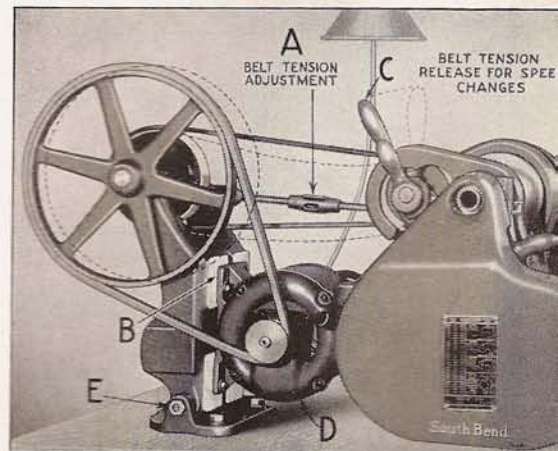

Fig. 2. End View of "Workshop" Lathe with Adjustable Horizontal Motor Drive Countershaft
The Adjustable Horizontal Motor Drive, shown in Fig. 2, is practical, convenient and efficient. The countershaft has belt tension adjustment (A and B) for both the cone pulley belt and motor belt. A quick release (C) for cone pulley belt tension permits easy shifting of the belt for changing spindle speeds. Motor operates from electric lamp socket.